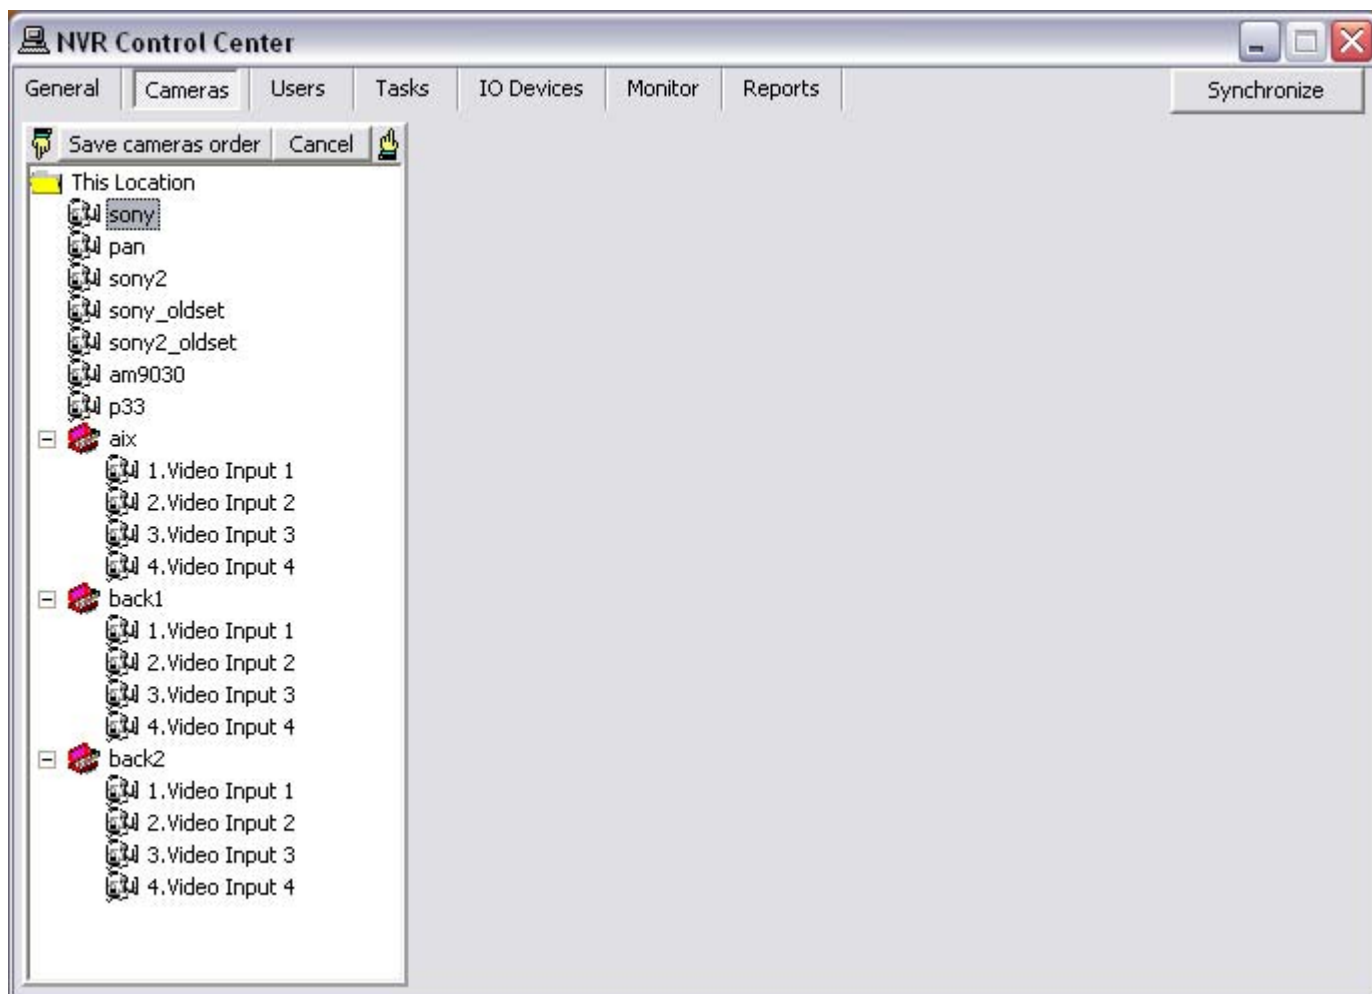

Fig 30. NVR Control Center — Cameras
1. In the **NVR Control Center — Cameras** with the camera selected double-click on the top bar of the **Cameras List** — the bar will accommodate **Move Down**, **Save cameras order**, **Cancel** and **Move Up** buttons (Fig 30).